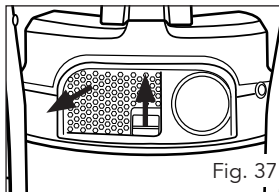

Fig. 37
1. Remove the filter cover (16) (Fig. 37).